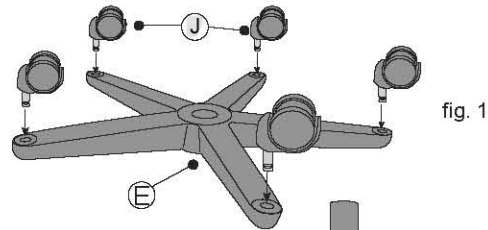

fig. 1
1. Place all the five Castors **J** in the holes located under Base **E**. See fig. 1.
1. Place all the five Casters **J** in the holes located under Base **E**. See fig. 1.